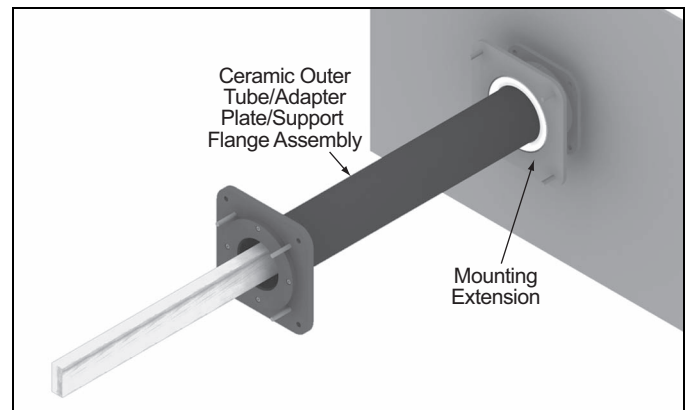

Figure 3.12
- Slide the Ceramic Outer Tube/Adapter Plate/Support Flange assembly through the mounting extension (Item 10) into the furnace. Special care should be taken during this step to prevent damaging the fragile Ceramic Tube. It may be helpful to lift the assembly with a crane or hoist by rigging to the Adapter Plate. In many cases a cantilever will be necessary to keep the tube horizontal while inserting it into the furnace. If this is the case Eclipse recommends using a long piece of wood as shown in Figure 3.12.